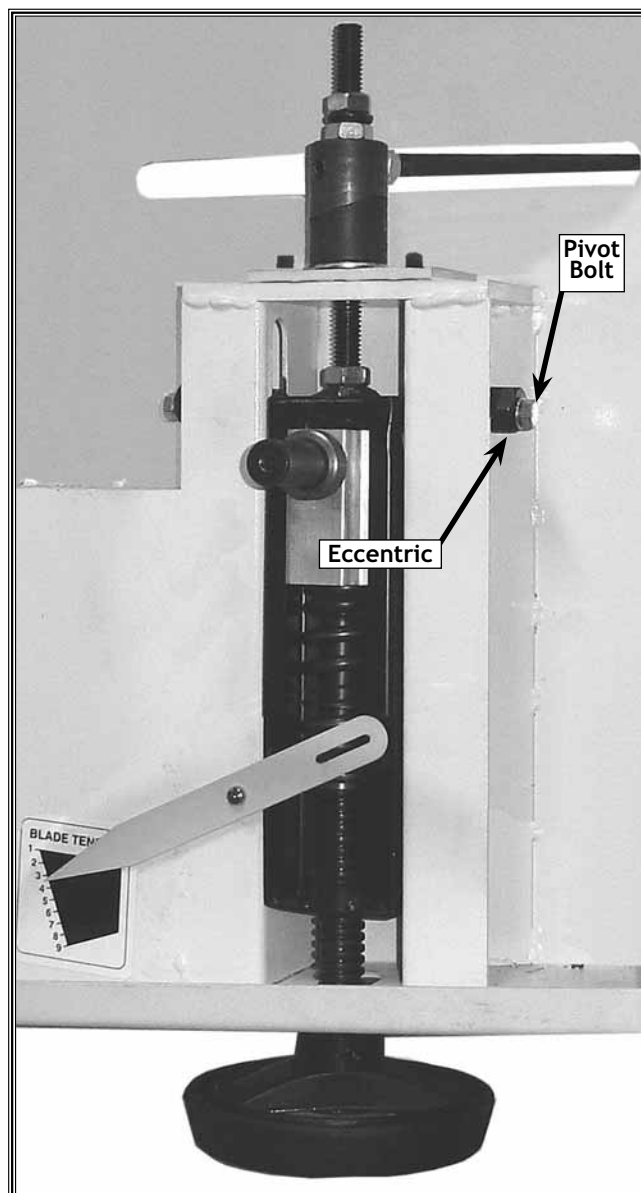

Figure 32. Upper tensioning system shown without wheel for clarity.
4. Use a 12mm wrench to loosen both pivot bolts. See **Figure 32**.
5. Turn both eccentrics with the flat box wrench so the wheel moves in or out as required. See **Figure 32** and **33**.